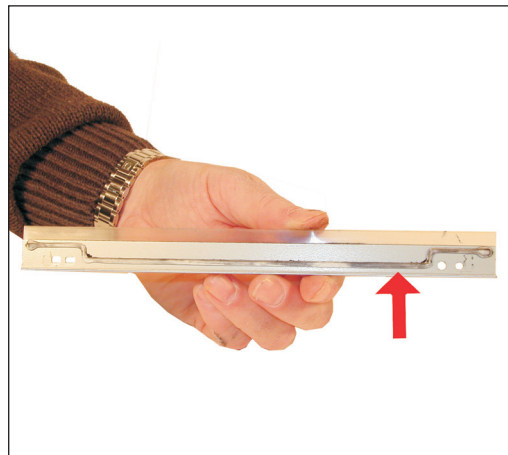

Figure 10
5) Coat the NEW wiper blade with your preferred lubricant, install the blade and two screws. If this is a multiple use cartridge, we have found that toner will tend to migrate from under the silicon seal on the back edge of the wiper blade. Seal behind this strip with a high quality silicon. (Use the type that never dries, the not paintable kind) See Figure 10